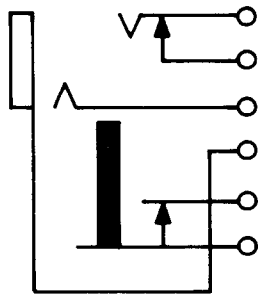

Fig. 17—347 Jack
2.17 347: (A & M only.) This apparatus should be ordered only for additions or maintenance of existing equipment arranged for this type of apparatus. This strip-mounted jack (Fig. 17) is used with the 310 plug. This jack is furnished only on orders for jack mountings. The 347 jack mounts in the 109, 110, 116, 131, 136 and 137 jack mountings. This jack is used in the 109A multiple magnetic switchboard and equipped with heavy contacts on the tip spring combination.